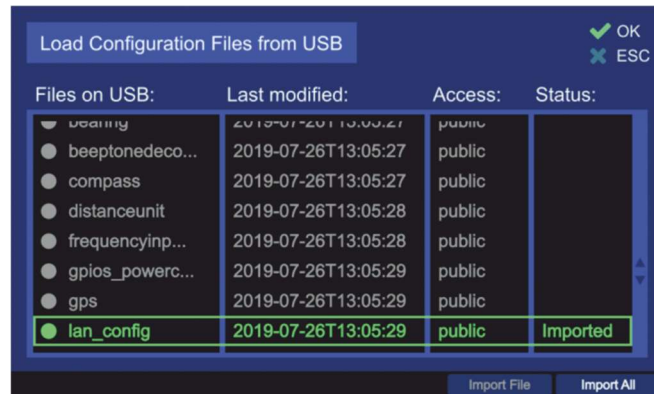

Figure 180. File imported
- The hotkey “Import File” is only visible, if a valid configuration file is marked. Pressing this hotkey will start importing the marked configuration file from the USB flash drive. After successful import of the file, the hotkey name becomes gray (s. Figure 180).